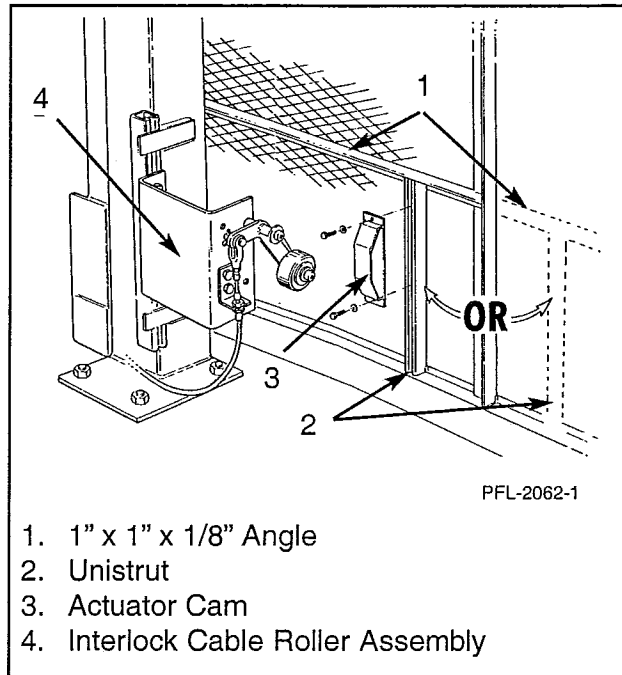

Figure 4
3. Install the piece of angle provided and a piece of unistrut on the back of the carriage. Depending on where the pump unit is located, you may do this installation on either side of the carriage as shown. See Figure 4.
4. Make sure the interlock cable roller assembly and the actuator cam align properly. Attach the actuator cam to the unistrut using 3/8" hex head screws with washers and lockwashers. See Figure 4.